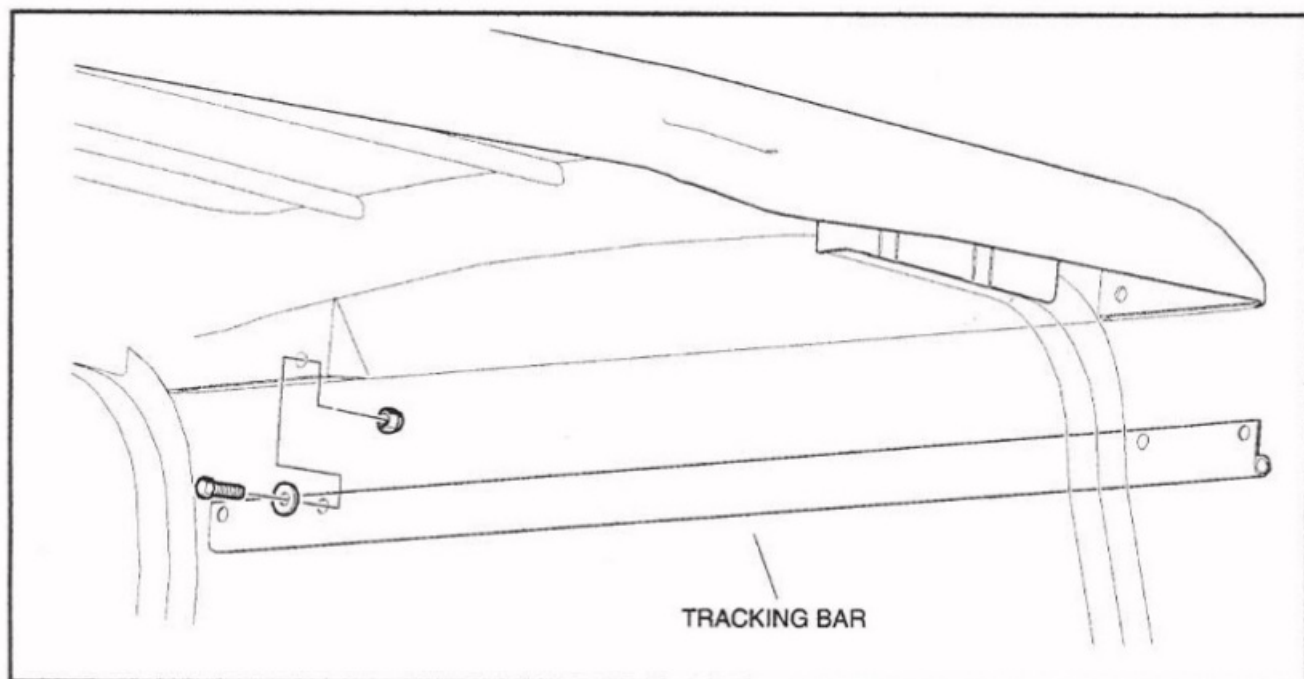

Figure 5 Secure Tracking Bar to the Canopy—One-Piece Seat Back Design
2.3. Secure the tracking bar to the canopy with two 1/4-20 x 1/2 hex head screws, 1/4 flat washers, and 1/4 locknuts as shown (Figure 5). Tighten hardware to 45 in-lb (5.1 N-m).